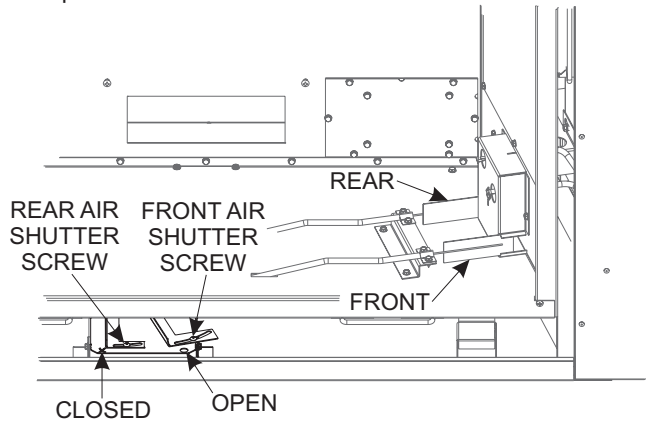

Figure 7
9. Loosen rear air shutter screw and rotate handle to the right until full open is achieved and tighten down screw. **See Figure 7.**